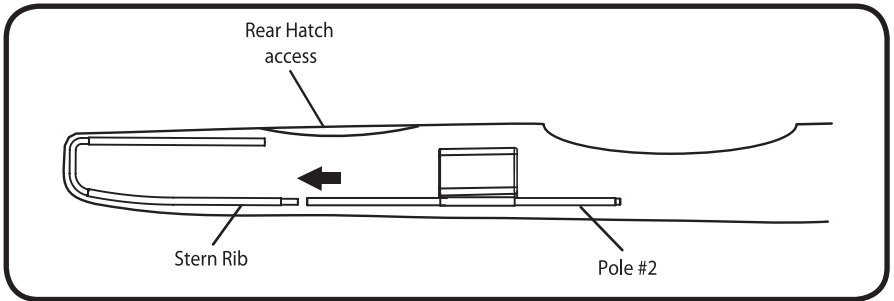

Figure 7
7. Install pole #2 into the rear end of the kayak, connecting it with the bottom portion of the Stern Rib. The pole should be on top of the foam floor and the numbered end of the pole should be at the cockpit of the kayak. **See Figure 7.**